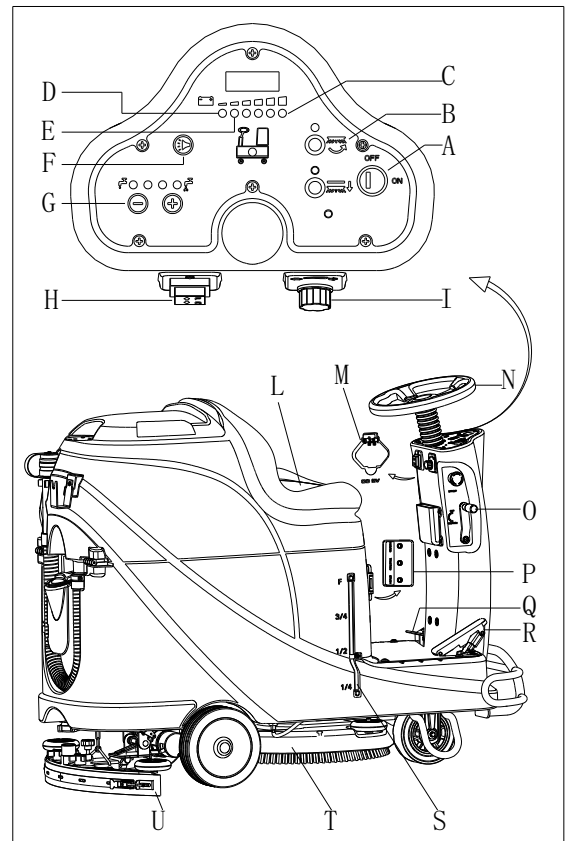

Figure 10
2. Sit on the seat (L, Figure 10), insert the key switch (A) and turn it to "ON". If the green light (C) is on, the batteries are fully charged for use. If the yellow light (E) or red light (D) is on, batteries must be charged before operation. [Refer to MAINTENANCE chapters for batteries charging].
11. Loosen the accelerate pedal (R, Figure 10), the machine stops running.
12. Press brush button (B) to stop brush motor.
13. Lift brush assembly (T) by depressing the pedal (Q).
14. Lift squeegee assembly (U) by squeegee lifting/lowering lever (O), and a few seconds later the vacuum system will be closed.